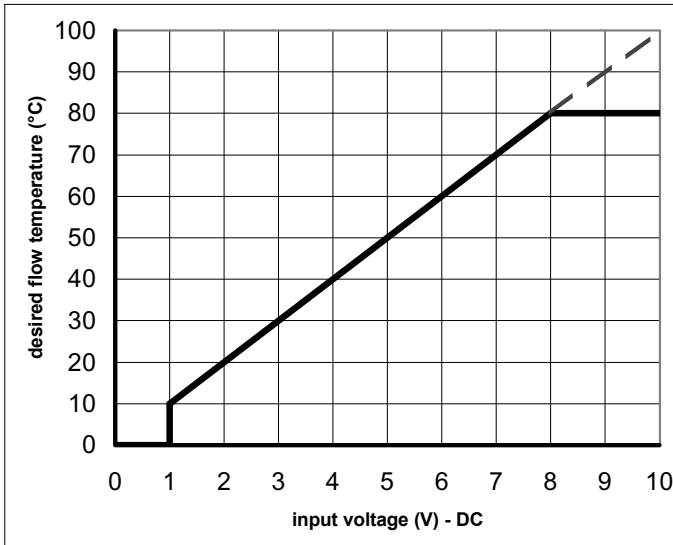

Fig. 17 Temperature control via analog (0-10 Volt) signal
- Temperature based (20 to 90 °C) set the  $\boxed{X}$  value of the boiler control operation parameter  $\boxed{R_1}$  to  $\boxed{4}$ . To set the ratio between voltage and the desired flow temperature, see par. 6.6.6 and Fig. 17.